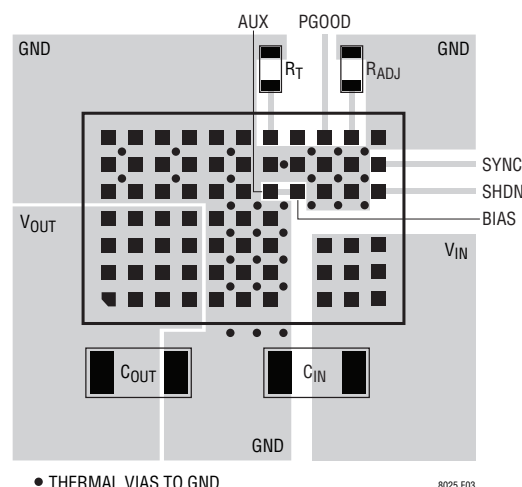

Figure 3. Layout Showing Suggested External Components, GND Plane and Thermal Vias.
operation with a haphazard or poor layout. See Figure 3 for a suggested layout. Ensure that the grounding and heatsinking are acceptable.
6. For good heatsinking, use vias to connect the GND copper area to the board's internal ground planes. Liberally distribute these GND vias to provide both a good ground connection and thermal path to the internal planes of the printed circuit board. Pay attention to the location and density of the thermal vias in Figure 3. The LTM8025 can benefit from the heat-sinking afforded by vias that connect to internal GND planes at these locations, due to their proximity to internal power handling components. The optimum number of thermal vias depends upon the printed circuit board design. For example, a board might use very small via holes. It should employ more thermal vias than a board that uses larger holes.